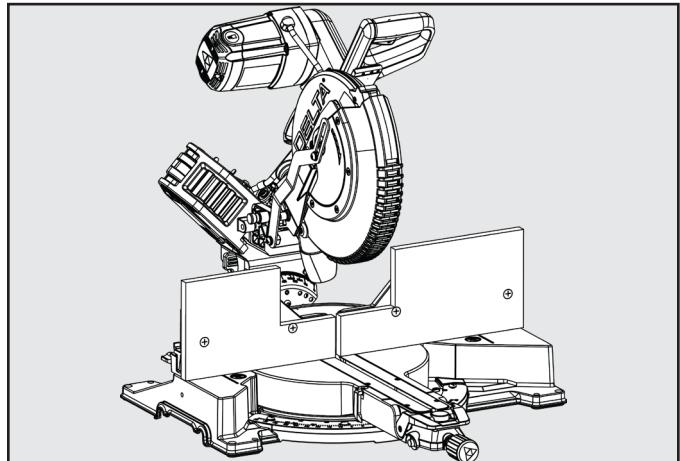

Figure 25
2. Place auxiliary fence wood against miter saw fence. See figure 25. The maximum height for this wood must not exceed 6.5". Check to make sure auxiliary fence does not make contact with saw head, check with saw head in the full DOWN and fully RETRACTED position.